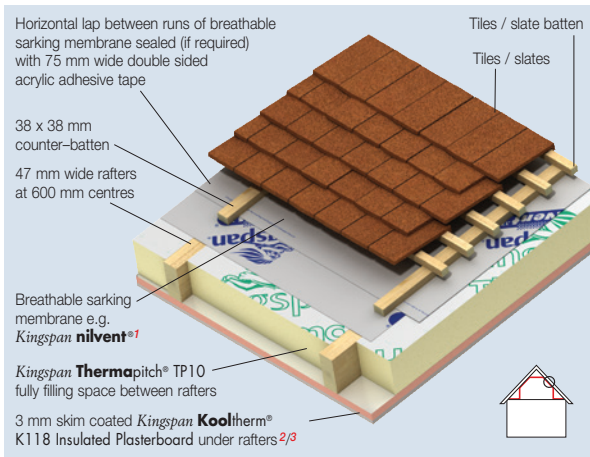

Figure 1a
*NB When calculating U-values to BS EN ISO 6946: 2017 / I.S. EN ISO 6946: 2007, the type of mechanical fixing used may change the thickness of insulation required. The effect of fixings for Kingspan **Kooltherm**[®] K118 Insulated Plasterboard in the U-value calculations for Figures 1a, 1b, 1c, 1d, 2a, 2b, 4a & 4c is insignificant as the insulation layer penetrated is not the main insulation layer. The U-value calculations for Figures 3a & 3b assume that over rafter layers of insulation are fixed using stainless steel fixings with a cross sectional area 7.90 mm², with 3.7 fasteners per m² (insulant thickness 0–40 mm), 6.2 per m² (insulant thickness 41–60 mm), 8.3 per m² (insulant thickness 61–80 mm) and 10.0 per m² (insulant thickness 81–100 mm). The U-value calculations for Figures 3a & 3b also assume that over rafter layers of insulation are fixed using stainless steel fixings with a cross sectional area 9.1 mm², with 11.1 fasteners per m² (insulant thickness 101–125 mm). Please contact the Kingspan Insulation Technical Service Department (see rear cover) for project calculations.*
- ¹ In Figures 1a & 3a the breathable sarking membrane can be placed over the counter-battens, draped to provide for drainage and overlain with tile / slate battens. This will yield a marginally better U-value but it will be more difficult to seal the breathable sarking membrane effectively.